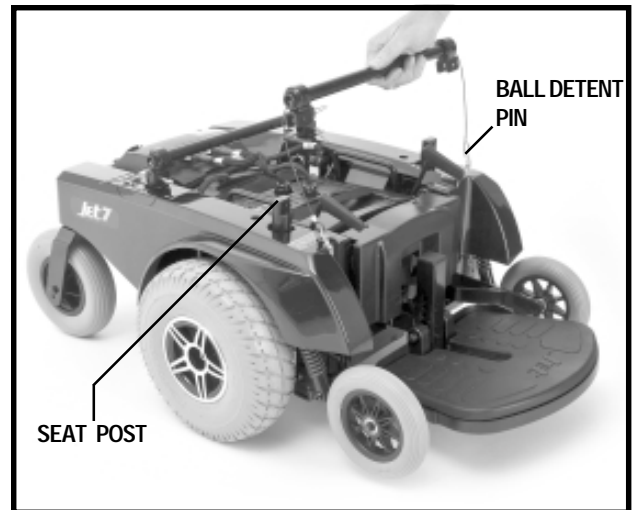

Figure 14. Removing the Trapeze Bars
7. Remove the ball detent pins from the seat posts and remove the front and rear trapeze bars. See figure 14.